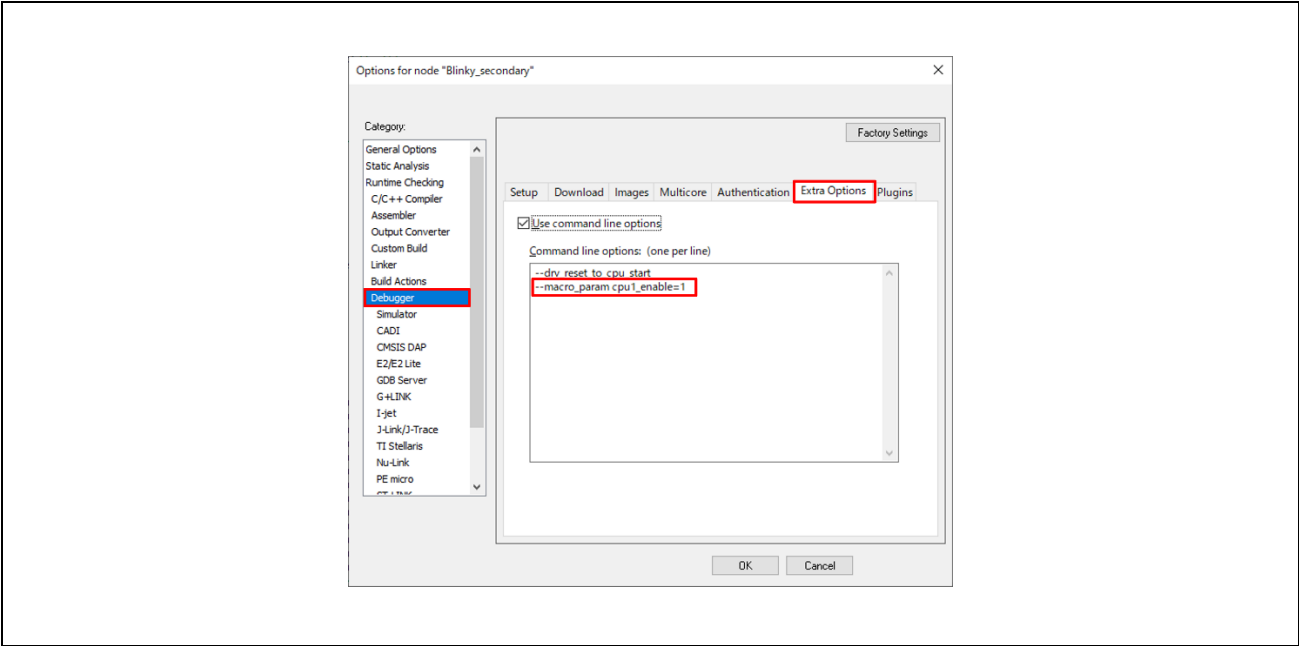

Figure 75 IAR EWARM Project Options for the Secondary Project (Debugger Extra Options)
3. Download of the primary project with procedure 5.3.4 Download & Debug the Project as shown in Figure 75.